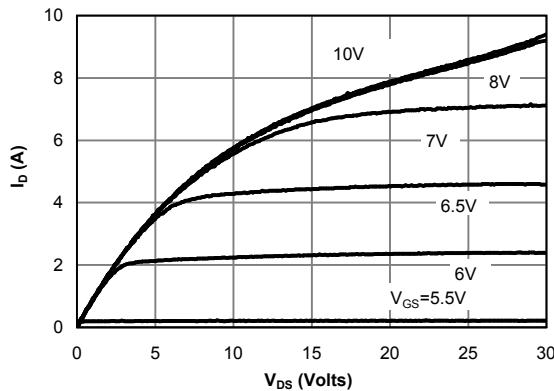

Figure 1: On-Region Characteristics
- E. The static characteristics in Figures 1 to 6 are obtained using <300 ms pulses, duty cycle 0.5% max.